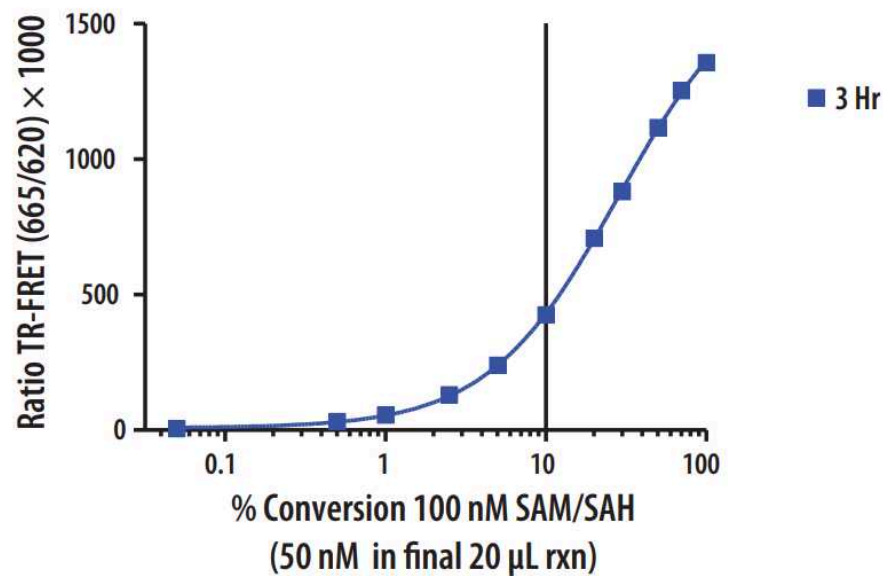

Figure 4. A typical 100 nM SAM/SAH standard curve. Final concentrations were 50 nM in a 20 µL reaction, incubated for 3 hours.
6.4 A standard curve (**Figure 4**) is needed to convert FRET ratios to product formation (SAH) for quantitative data analysis. Whether to use a standard curve is a matter of choice. Many users do not use one for screening purposes, because the criteria for a hit are based on statistical analysis of the raw data. However, if you require quantitative enzyme turnover information for Michaelis-Menten kinetic analysis, you will need to plot a standard curve.